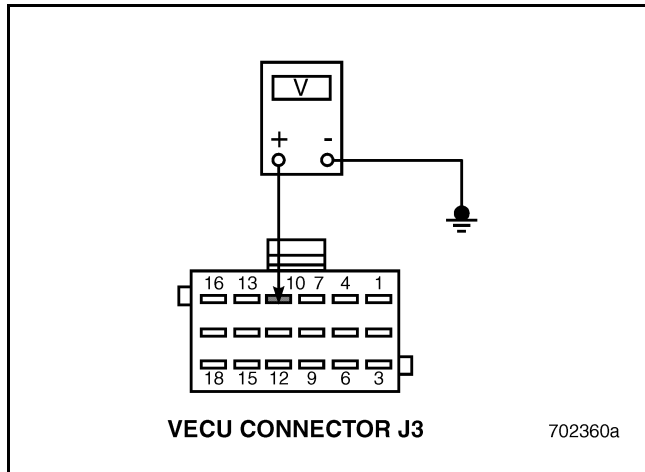

Figure 480
5. Measure the voltage between VECU connector J3, pin 10 and a good ground (see Figure 480).